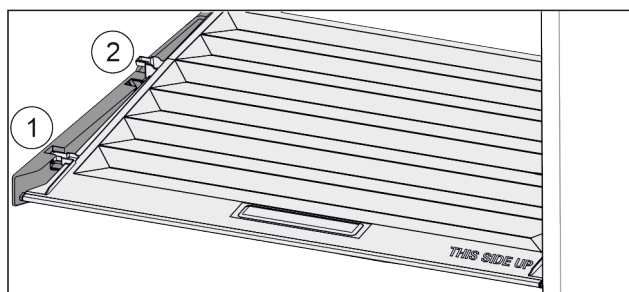

Fig. 124
- Pull the lid up at the front to the opening in the retaining parts *Fig. 124 (1)*.
- Lift from the back and pull it up and out *Fig. 124 (2)*.